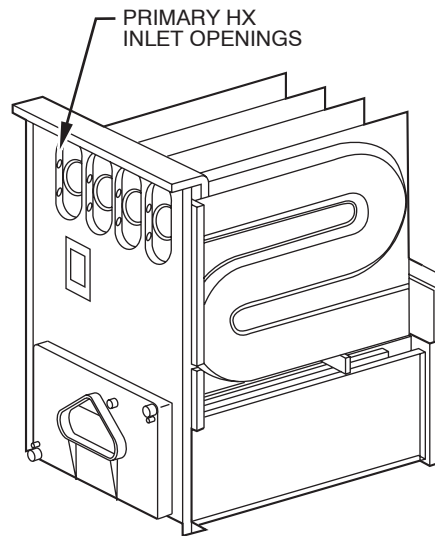

Fig. 8 – Cleaning Inlet Openings of Primary Heat Exchangers
11. Clean heat exchanger openings with a vacuum and a soft brush. (See Fig. 8.)